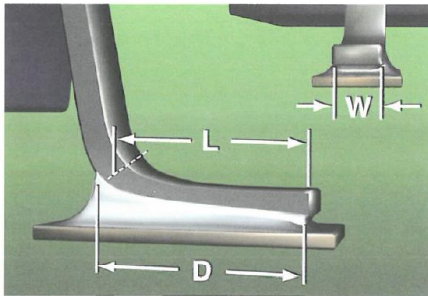

Figure 8-86
- When foot length (L) is greater than or equal to three lead widths (W), minimum side joint length (D) is equal to or greater than three lead widths (W) or 75% (L), whichever is longer, see Figure 8-86.